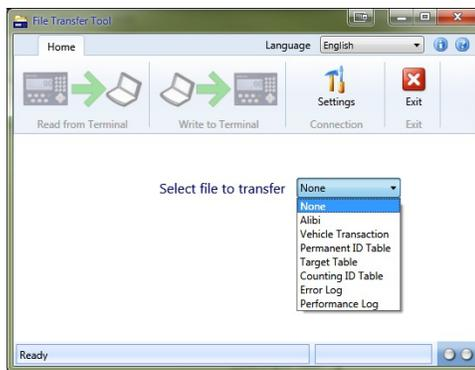

Figure 3-1: File Selection Dialog
1. On the Home tab of the IND246 File Transfer Tool, use the File selection dialog to select the file to be read from the terminal, as shown in Figure 3-1.